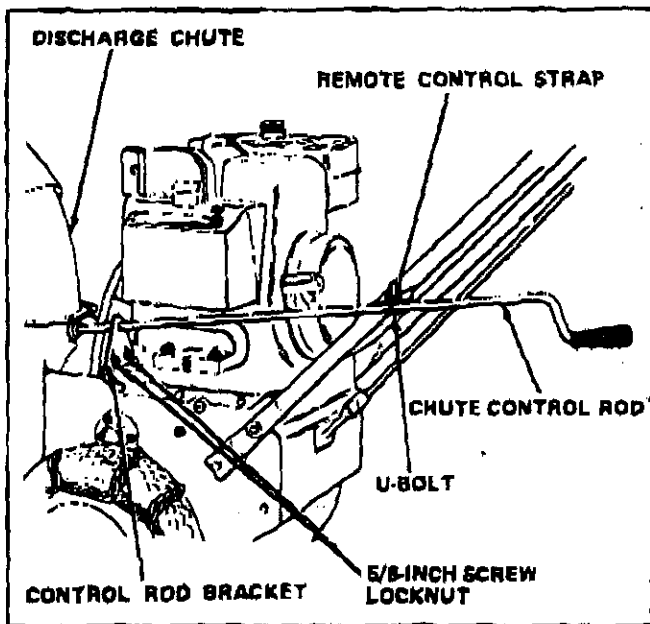

Figure 5
3. Secure chute control rod (figure 5) to left lower handle with fasteners installed in remote control strap.
1. Remove locknut from screw located in bell crank assembly. Secure lower end of shift control rod to bell crank as shown in figure 5 and replace nut.